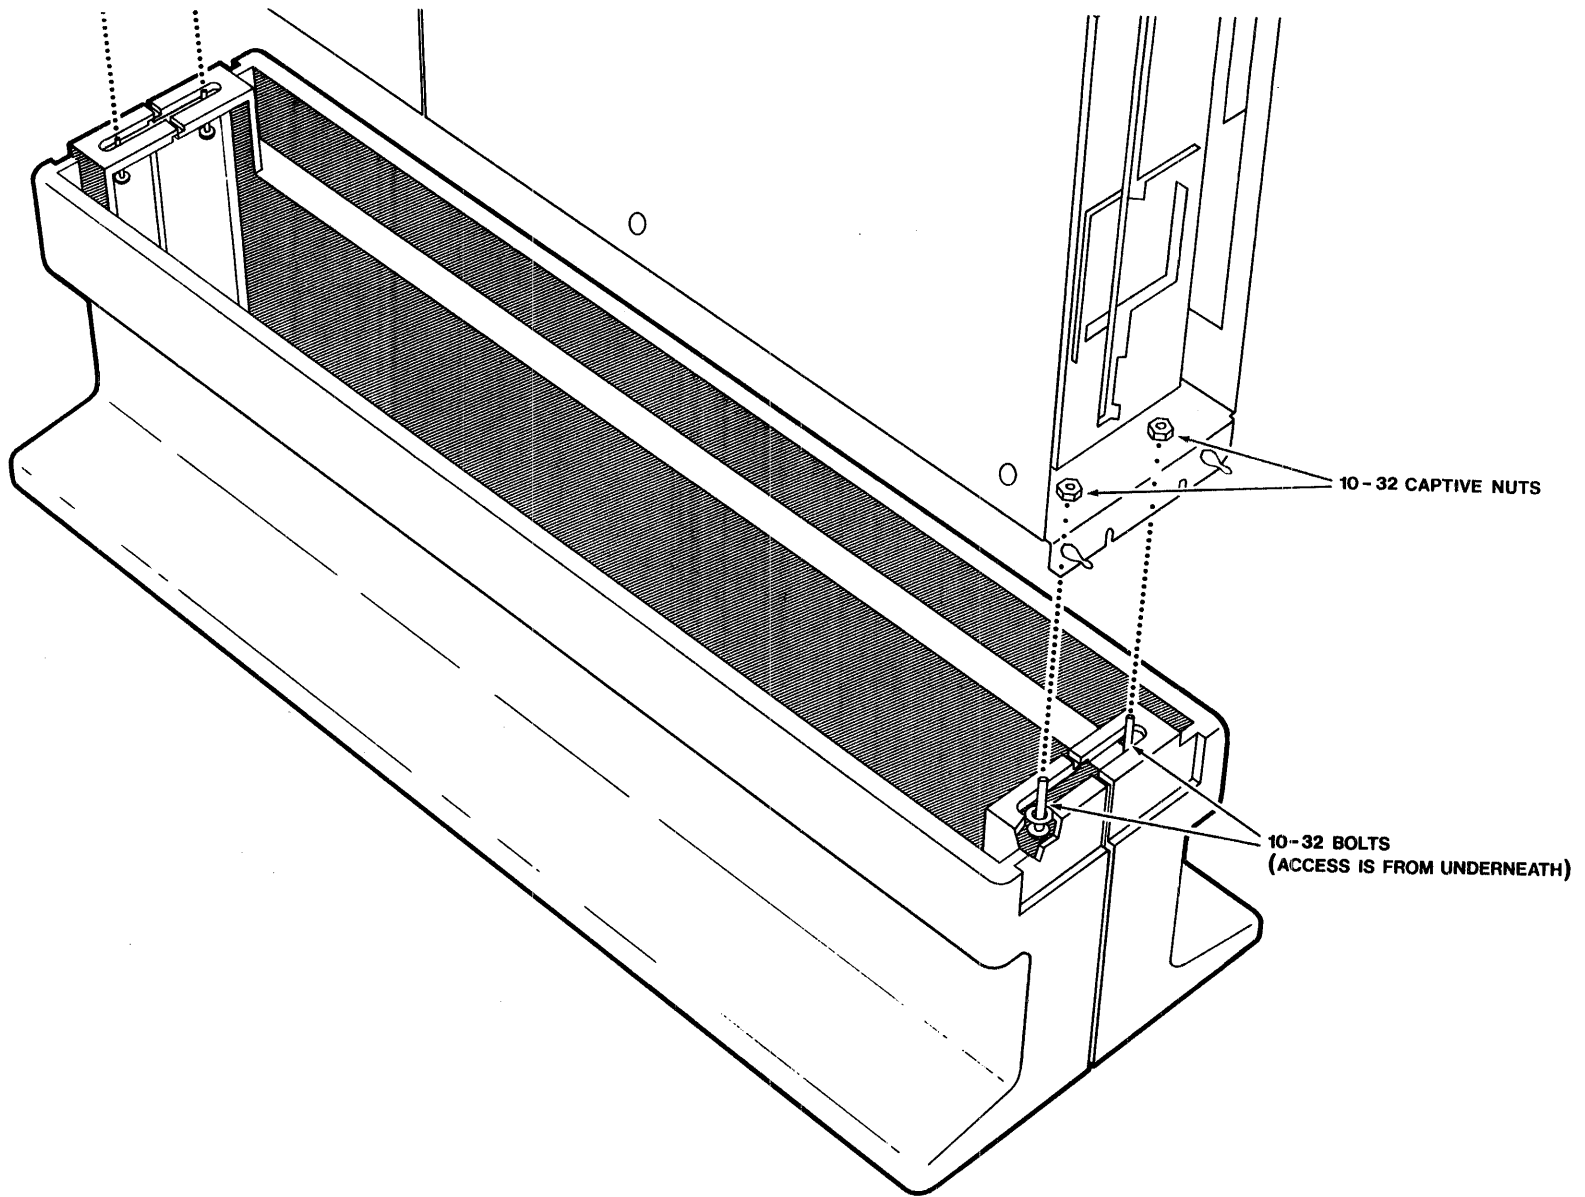

Fig. 10-13 Removal of pedestal
17. PEDESTAL (Floor-mounted systems). The pedestal attaches to the chassis with four 10-32 screws, as shown in Figure 10-13. Note that the two pedestal halves are held together by metal braces at each end. Therefore the pedestal should be removed as a single